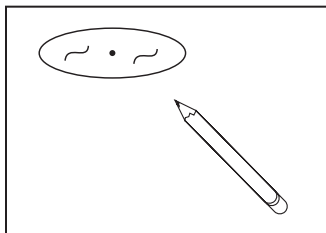

Figure 2
**Step 2.** Locate center of proposed opening on ceiling and use template to mark and accurately cut a 4-3/8" opening (Fig. 2).